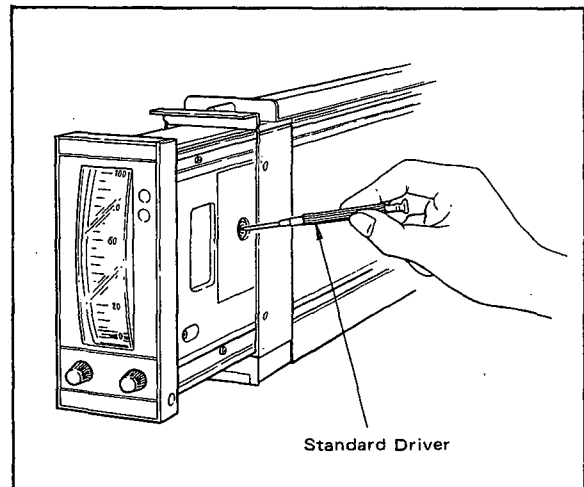

Figure 6-1. Zero Adjustment.
- (1) Apply 3.0 V DC to process variable input terminals (terminal number 1(+) and 2(-)) from voltage/current standard.
- (2) Confirm that the pointer reads 50% $\pm 0.5\%$ of span.
- (3) If the specified accuracy is not obtained at this point, adjust the zero adjustment until the pointer reads 50% as shown in Figure 6-1.
- (4) Similarly apply 1.0, 2.0, 4.0 and 5.0 V DC and confirm that the pointer reads 0, 25, 75 and 100% $\pm 0.5\%$ of span respectively.